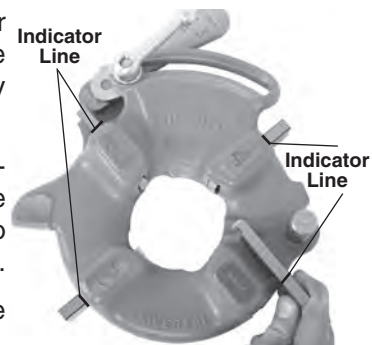

Figure 8 – Inserting Dies
4. Lift tongue of washer out of slot in size bar. Move washer to end of slot (Figure 8).
6. Insert appropriate dies into the die head, numbered edge up until the indicator line is flush with the edge of the die head (see Figure 8). Numbers on the dies must correspond with those on the die head slots. Always change dies as sets – do not mix dies from different sets.